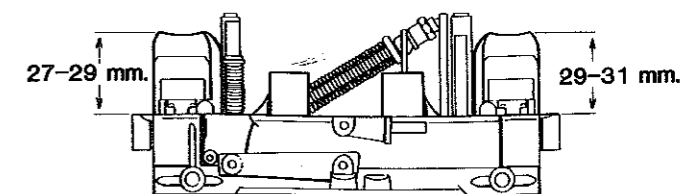

Fig. 3.24 Float height measurement (Sec 28)
- 12 Still with the cover inverted, measure the float heights (Fig. 3.24). The gasket must be removed and the spring-loaded pins in the needle valves must not be depressed.